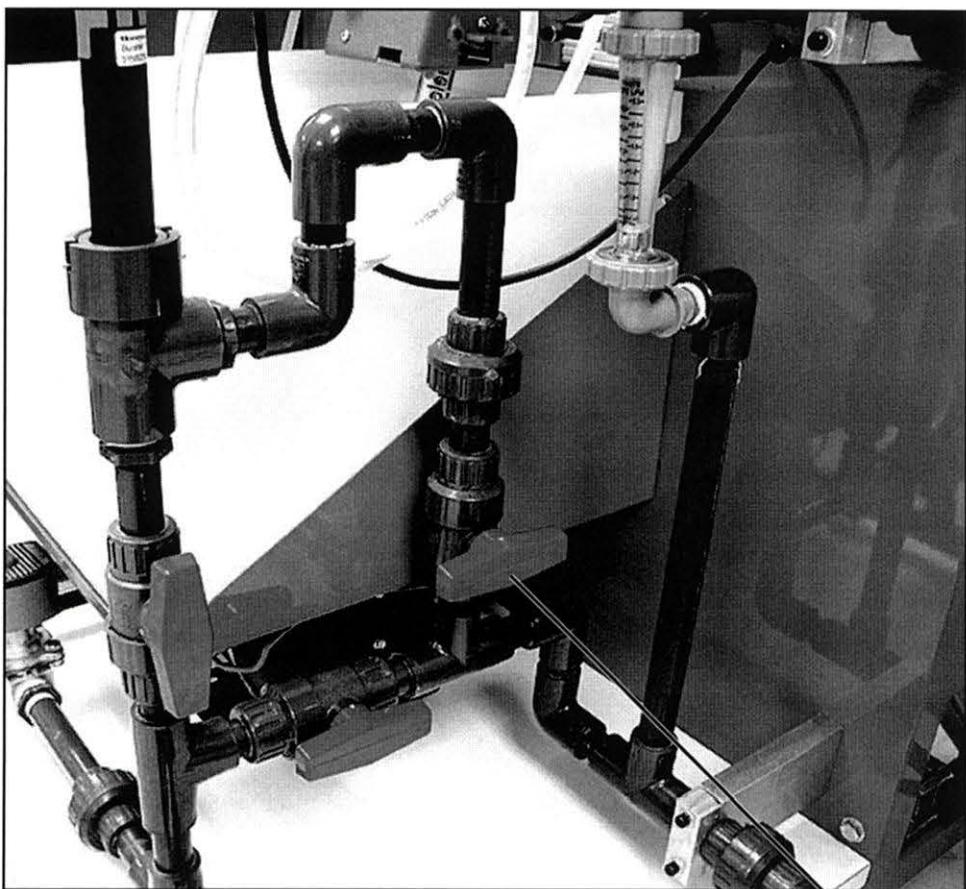

Figure 50. One Branch Valve Open and the Other Closed
- 3. Open the branch valve directly under the electrode fitting and shut the other branch valve, as shown in figure 50.